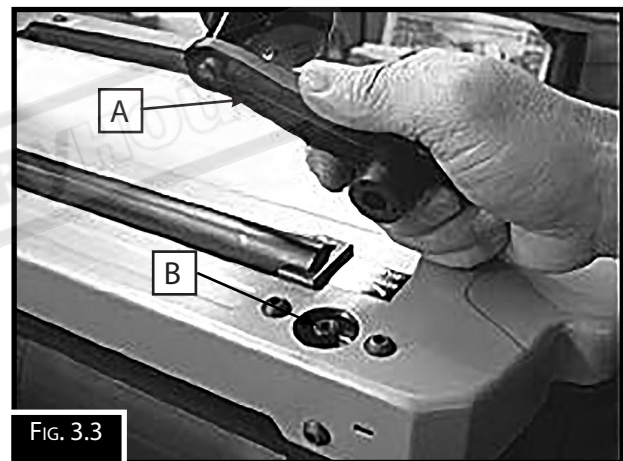

FIG. 3.3
Attach the depth adjustment handle (A) to the shaft (B) and fasten in place with a Hex Socket Head screw. Tighten screw using supplied hex wrench. (Fig. 3.3)